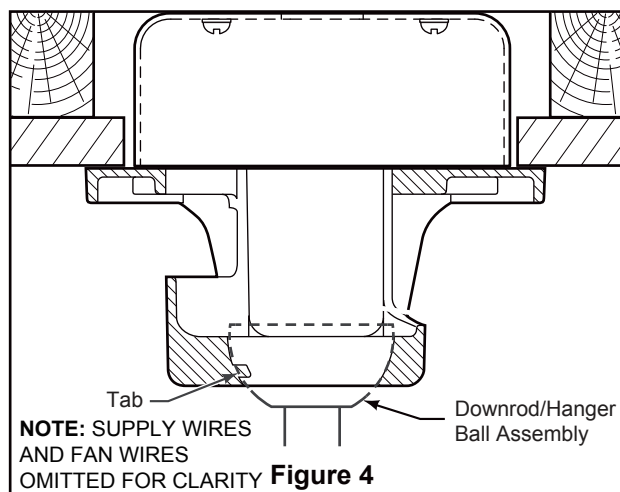

Figure 4
- ☐ 3. Carefully lift the fan and seat the downrod/hanger ball assembly onto the hanger bracket that was just attached to the outlet box. Be sure the groove in the ball is lined up with tab on the hanger bracket. (Figure 4)